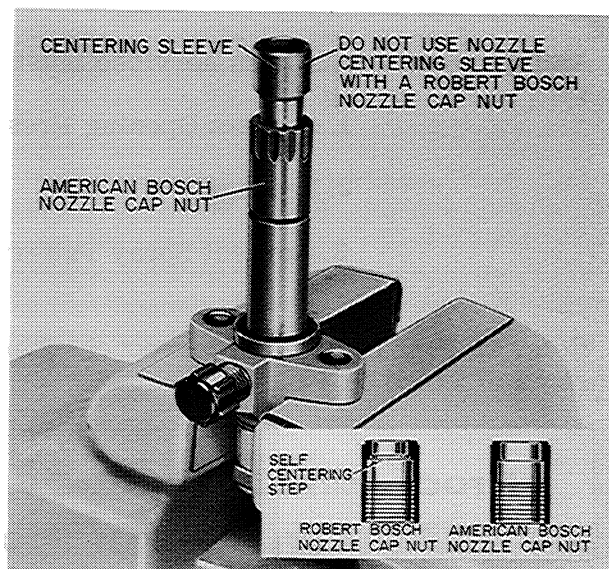

Figure I-40. Positioning Nozzle Body with Nozzle Centering Sleeve
1. Clamp the nozzle holder in the vise, as shown in Figure I-40.
Note: Robert Bosch cap nut can be identified by a centering step. Refer to inset, Figure I-40.
Do Not Use a centering sleeve to center the nozzle assembly in the cap nut when installing a Robert Bosch nozzle cap nut. The Robert Bosch cap nut is designed with a self centering step, Figure I-40 and if installed with a centering sleeve can cause damage to the nozzle assembly.
- a. Carefully fit the centering sleeve over the nozzle body, as shown in Figure I-40. The tapered end centers the nozzle body within the cap nut bore.